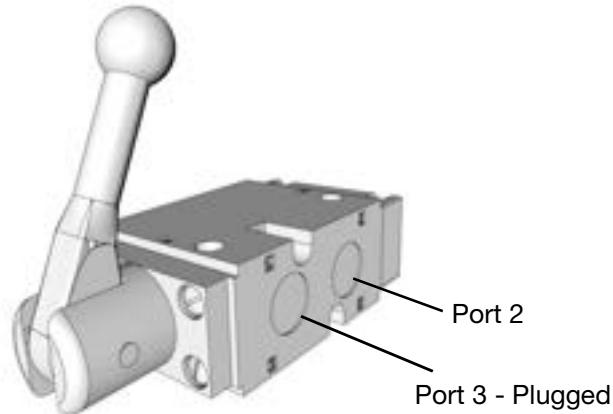

FIG. 14
- a. Connect port 1 to the pneumatic power supply line (FIG. 14).